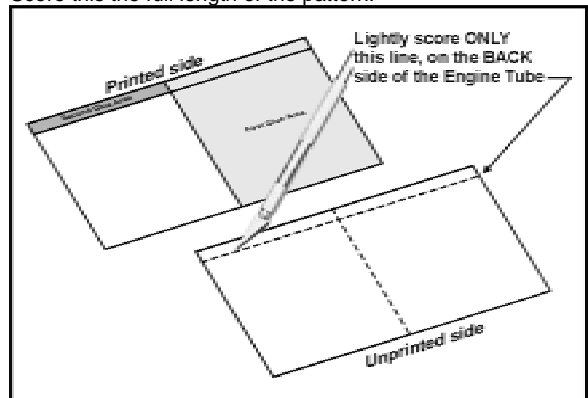

Figure 3
3. Cut out the Engine Tube (found on page 3 of the Instructions) and, referring to **Figure 3**, flip this over and lightly score a line opposite the horizontal line that defines the "Second Glue Area". Score this the full length of the pattern.